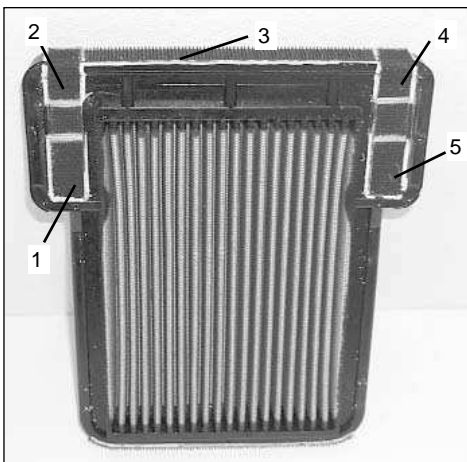

Fig. 1
1. Sand the surrounding surface of the POWERLID™ where the Velcro will be placed. (Fig. 1 & 2)
3. Cut the Velcro to best fit the locations shown below. (Fig. 1 & 2)
4. Remove the backing from the Velcro and apply to the POWERLID™ in the locations specified in Fig.1 & Fig. 2.